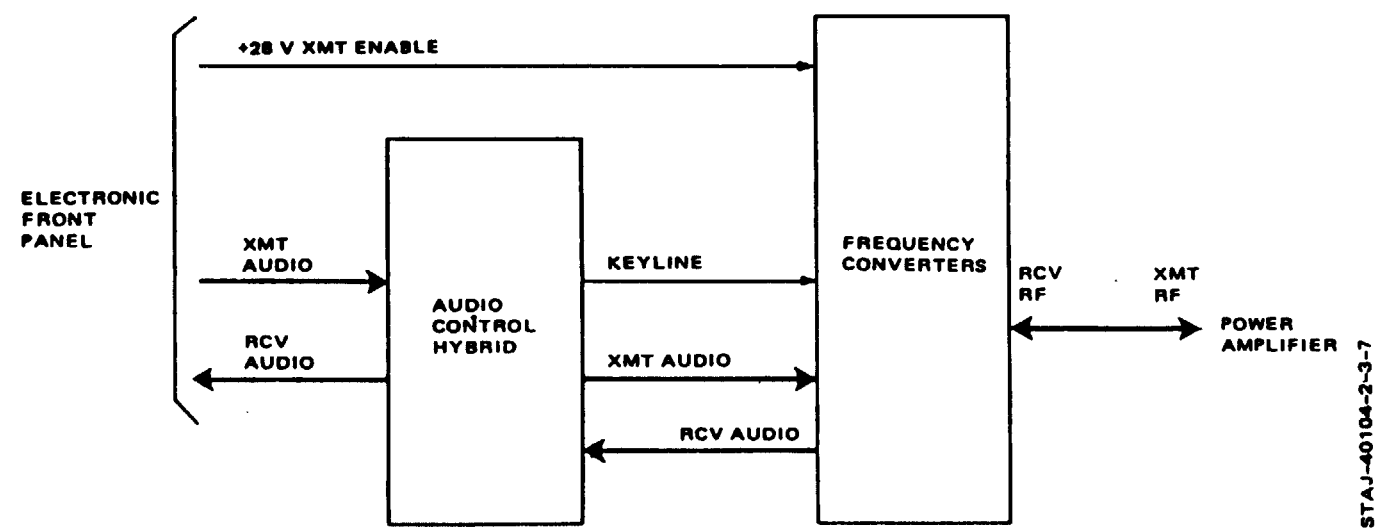

Figure 2-14. Modulator/Demodulator
**MODULATOR/DEMOMULATOR (1 of 2), fig 2-14**